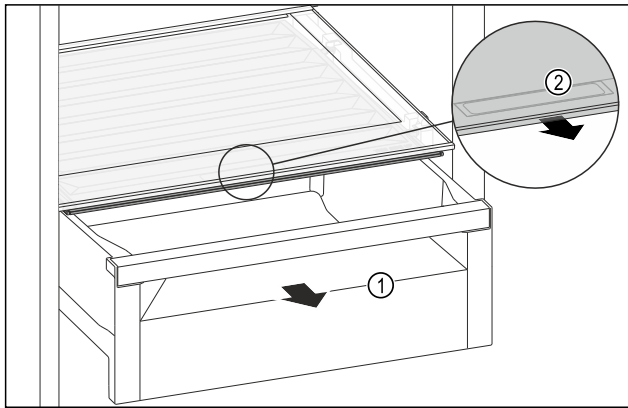

Fig. 84
- ▶ Pull out the drawer Fig. 84 (1).
- ▶ Grasp the recessed grip Fig. 84 (2) on the compartment lid and pull the compartment lid forwards at the same time.